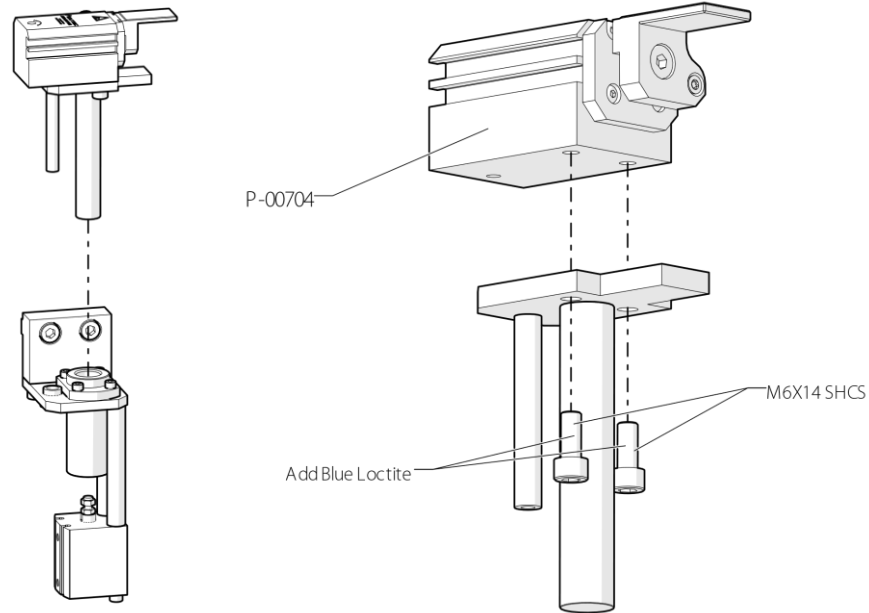

Figure 33: Removing P-00704
Step 3: Remove P-00704 as shown in Figure 33 and replace with new cylinder